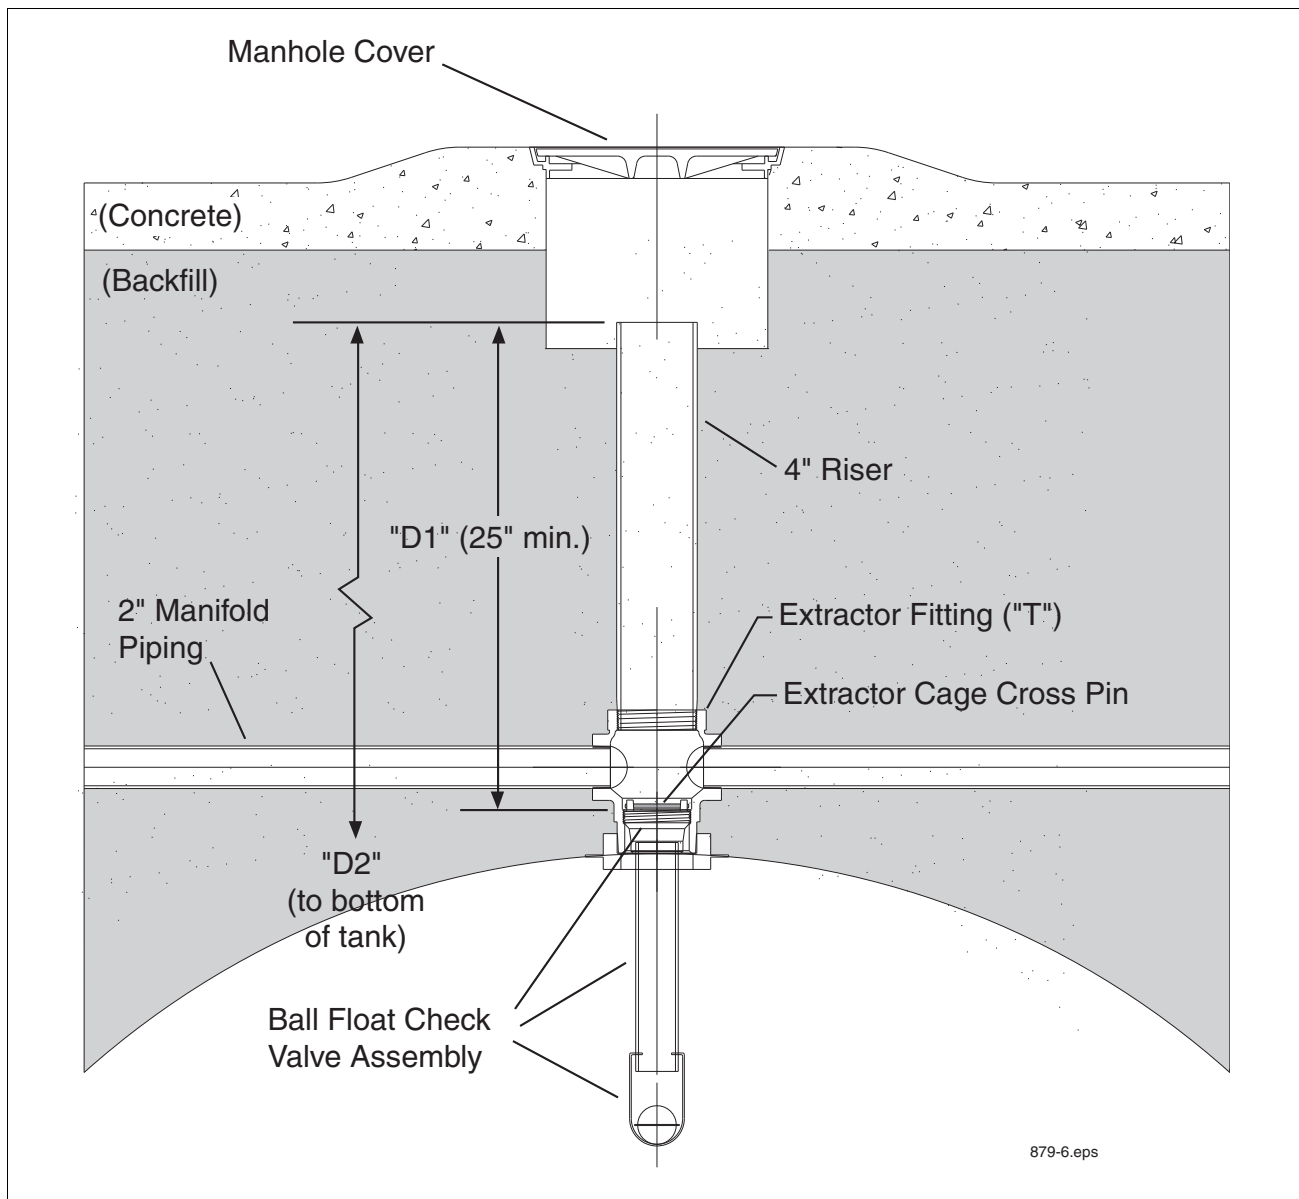

Figure 9. Determining Mag Probe Length For Installation In A Vapor Extractor Riser
1. Measure the distance from the top of the riser to the Extractor Cage Cross Pin (see Figure 9). Record this distance as "D1" (Important - Dimension "D1" must be at least 25 inches).
2. Use the extractor wrench tool (OPW Part Number: 89-0044) to remove the Ball Float Check Valve and Extractor Cage inside the bottom of the 4" riser (ref. Figure 9 on page 18). Important! - Ball Float Check Valve and Extractor Cage may be difficult to remove; **use caution**.